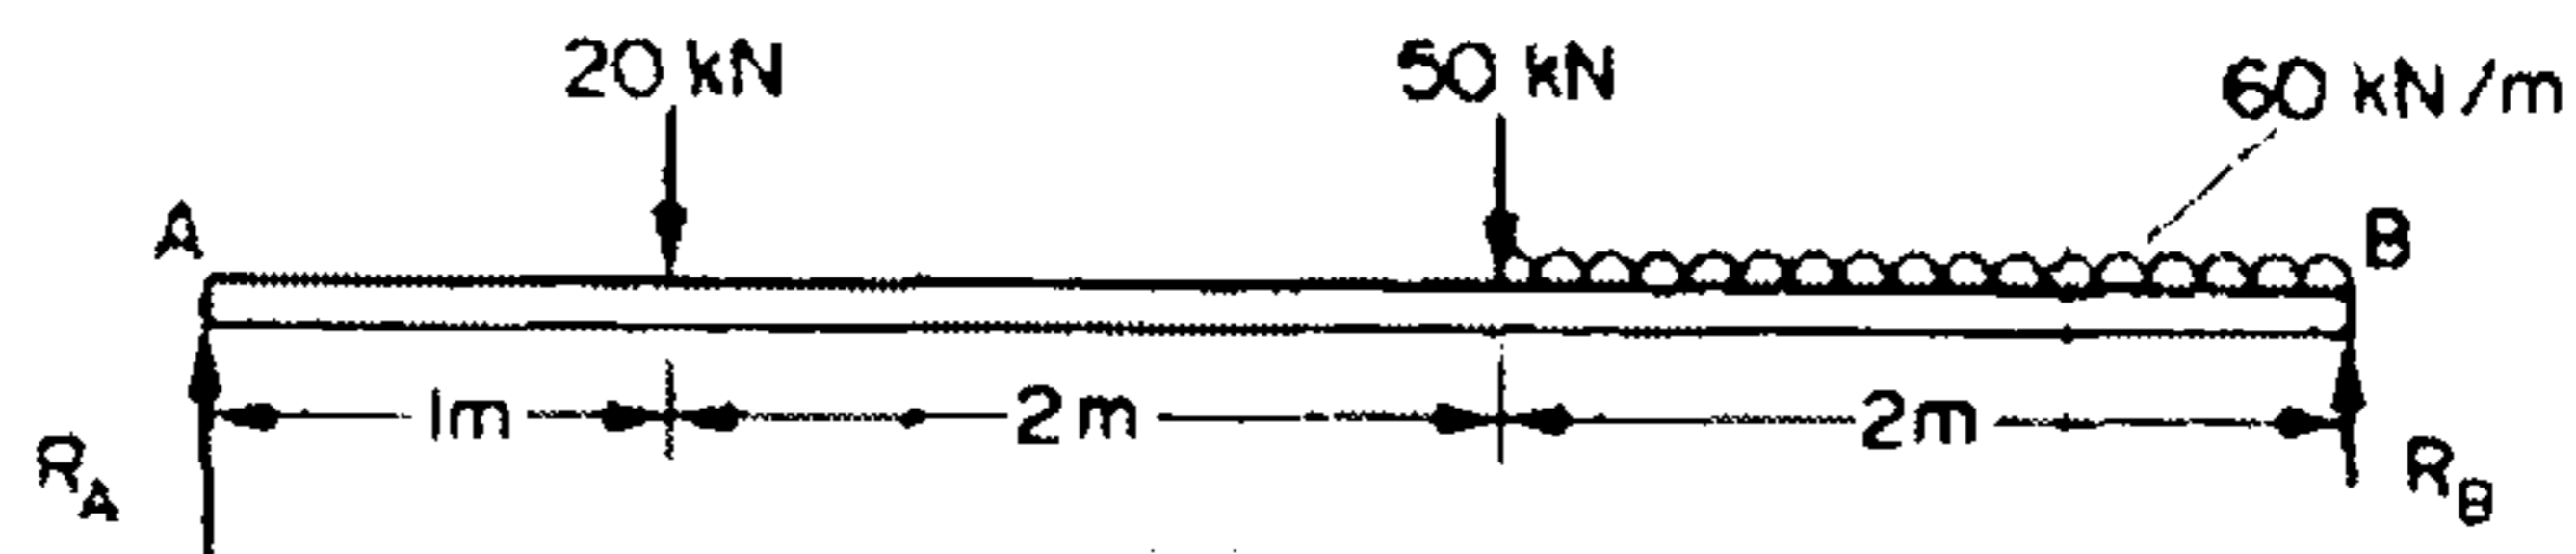

Figure 1
1. Determine the slope and deflection under the 50 kN load for the beam loaded as shown in figure 1. Find also the position and magnitude of the maximum deflection. Take $E = 200 \text{ GN/m}^2$; $I = 83 \times 10^{-6} \text{ m}^4$. 14 M